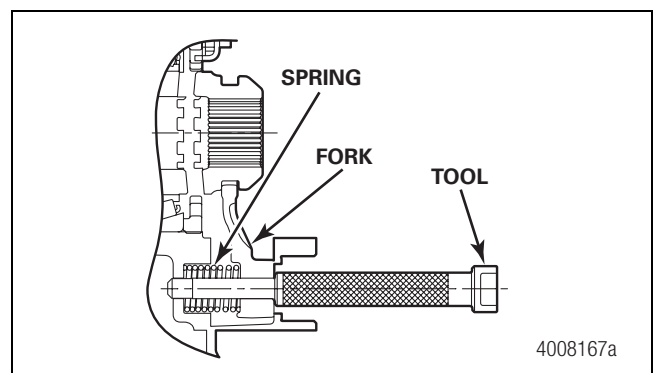

Figure 16
6. Insert a centering tool, screwdriver or other suitable tool to align the fork with the shift shaft housing bore. Refer to the tool drawing at the end of this bulletin. Figure 16.